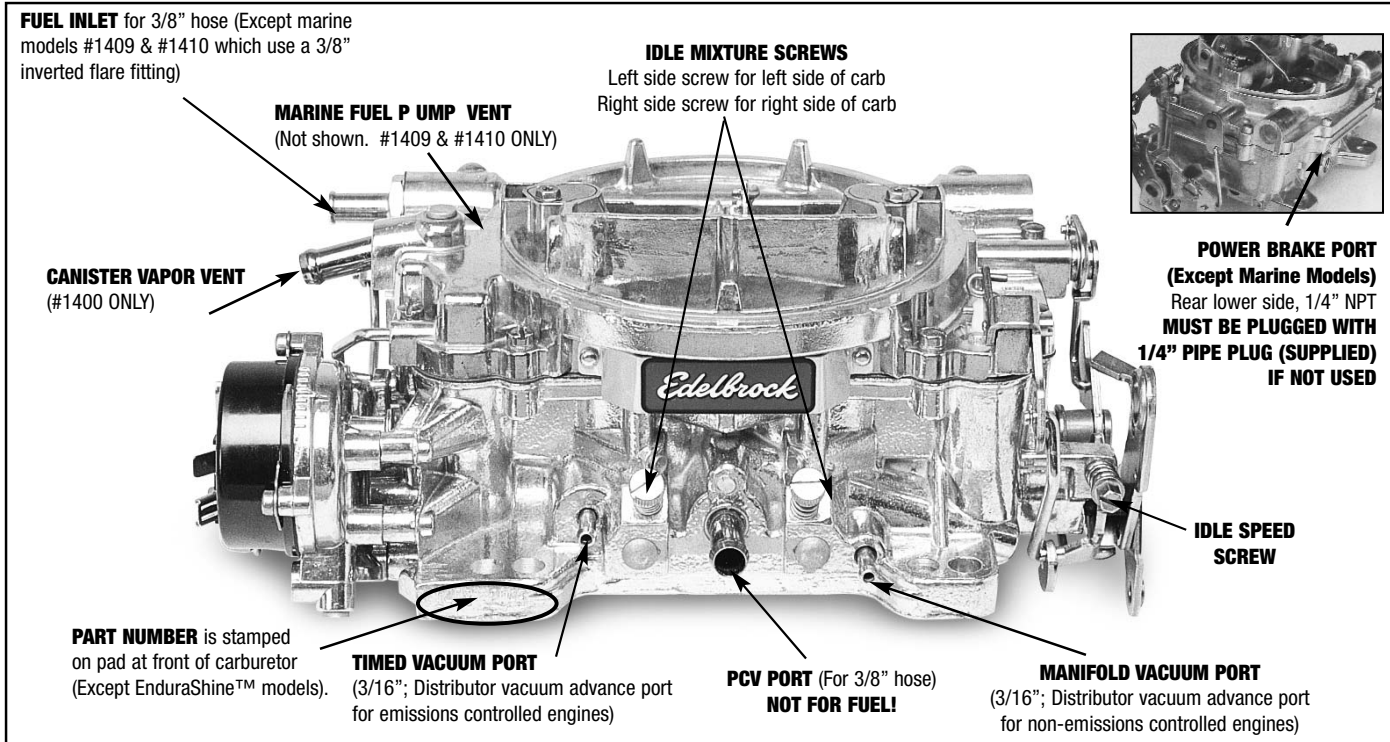

Figure 1 - Fittings and Vacuum Port Locations
- Connect all vacuum hoses to their proper location on carburetor (**See Figure 1**). Replace hoses that appear brittle or cracked to prevent vacuum leaks.